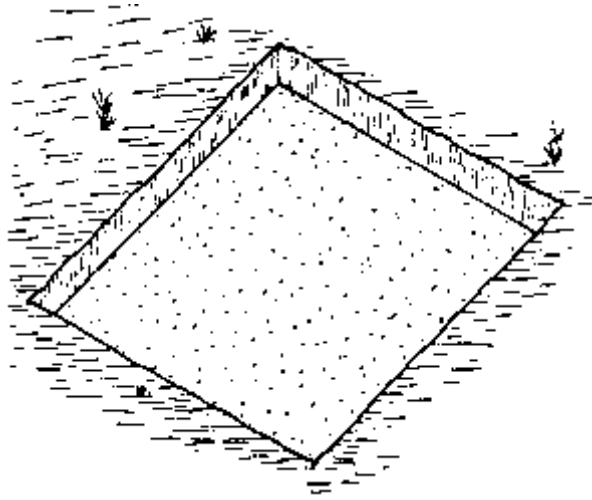

Fig. 3
- SLAB FOUNDATION: This is used for water tanks and septic tanks (Fig. 3).